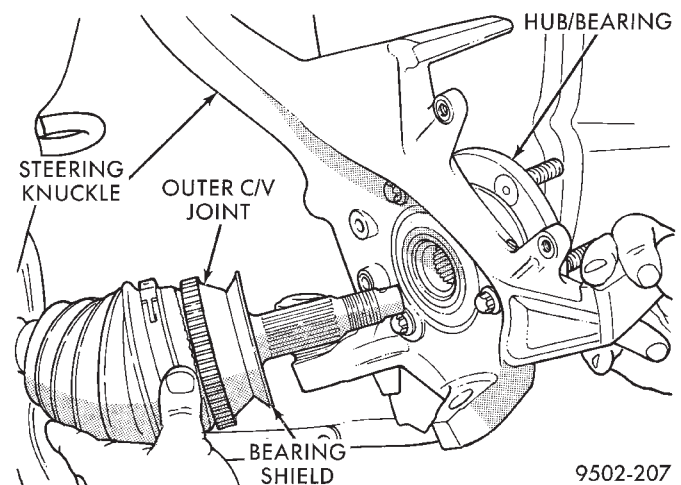

Fig. 16 Steering Knuckle Installation on Outer C/V Joint
(6) Slide driveshaft back into front hub (Fig. 16). Then install steering knuckle onto the lower control arm ball joint stud.